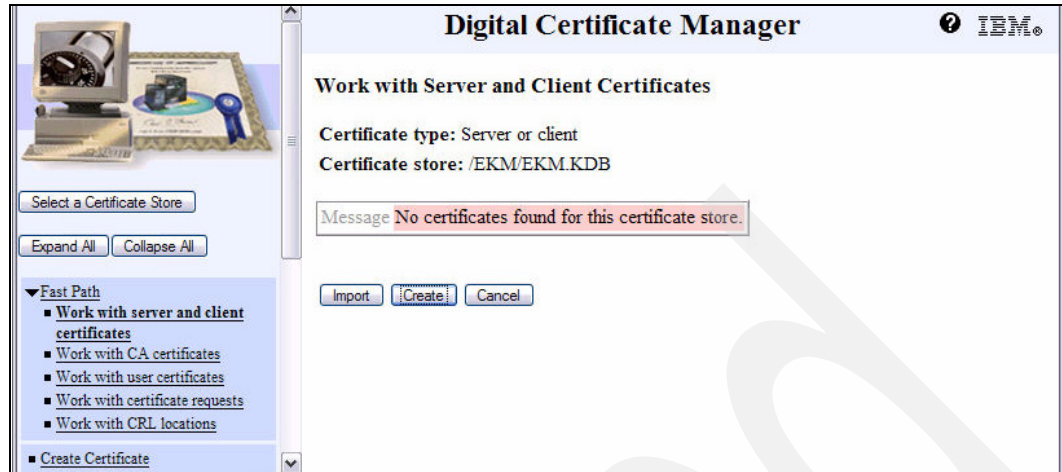

Figure 7-21 DCM Work with Server and Client Certificates
13. Select **Fast Path** → **Work with server and client certificates** and press the **Create** button shown in Figure 7-21.